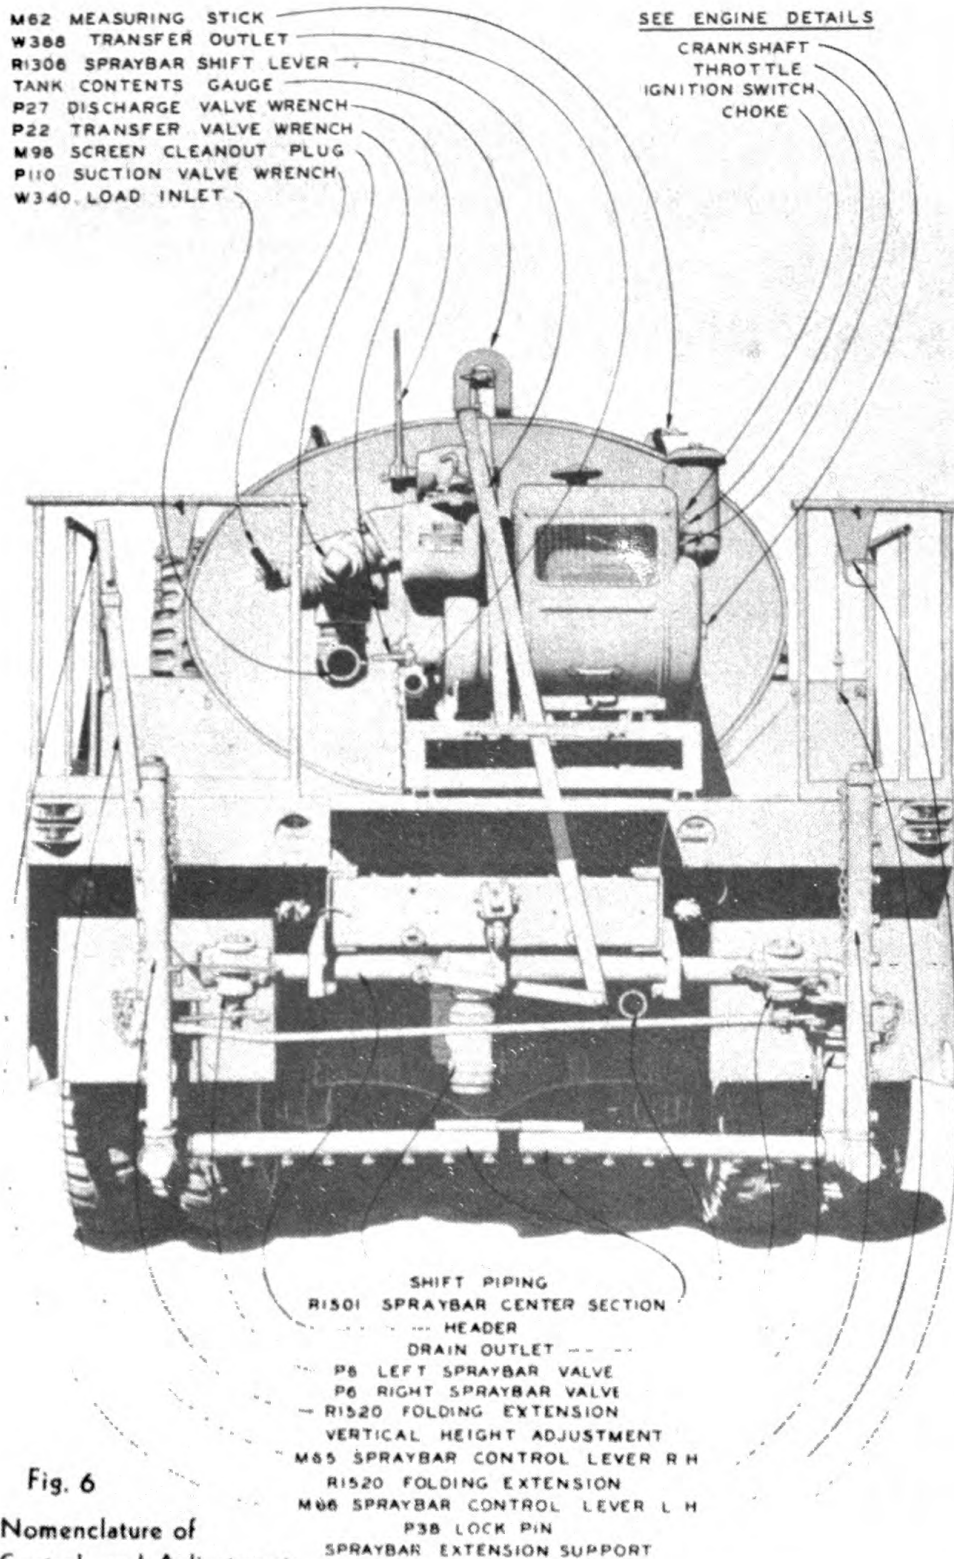

Fig. 6
## NOMENCLATURE OF CONTROLS AND ADJUSTMENTS (Fig. 6)
Water flows from tank at point (B) through P18 Valve and then through pump—Discharged at top left of pump water flows to P17 Valve and then to the Spraybar. Spraying operation starts when P6 Valves are opened (Fig. 6).
**PRESSURE REGULATION:** After the spraying operation has started the pressure is regulated by slowly moving the P27 Wrench to an intermediate position thus by passing part of the water back to the tank at point (A), the balance passing through M40 to the spraybar.
**STARTING THE ENGINE:** Ignition Switch Button, Choke, and Crankshaft are located on the right side of the machine as shown on (Fig. 6). Push in the Ignition Switch Button.
## OPERATING POSITIONS OF CONTROLS (Fig. 6 and 8)